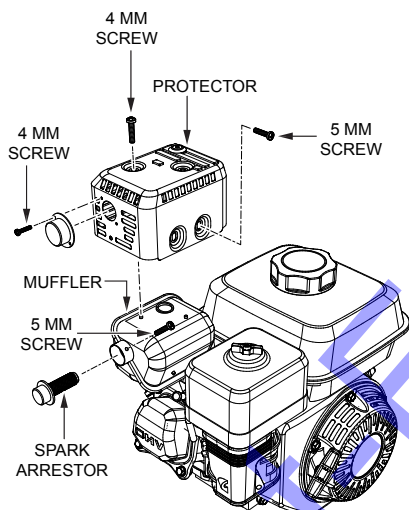

Figure 26. Spark Arrester Removal
1. Remove the 4 mm screw (3) from the exhaust deflector, then remove the deflector. See (Figure 26).
2. Remove the 5 mm screw (4) from the muffler protector, then remove the muffler protector.